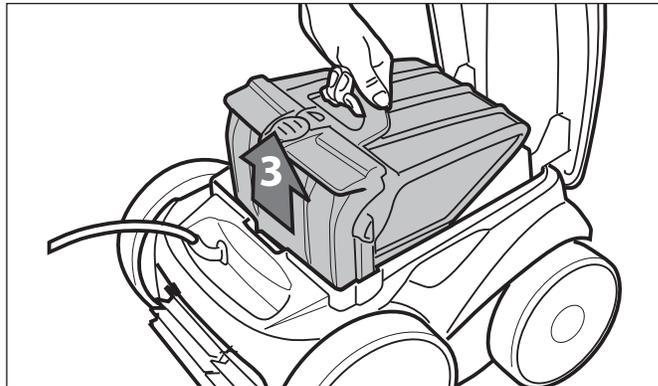

Figure 22. Remove Filter Canister Assembly
4. Remove the filter canister assembly from the body (3), as shown in Figure 22.